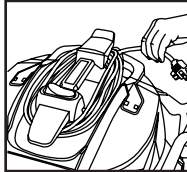

FIGURE 19
42. The power cord can be wrapped around the cord wraps provided on the top of the tank cover located in front and behind the handle. **FIGURE 19.**